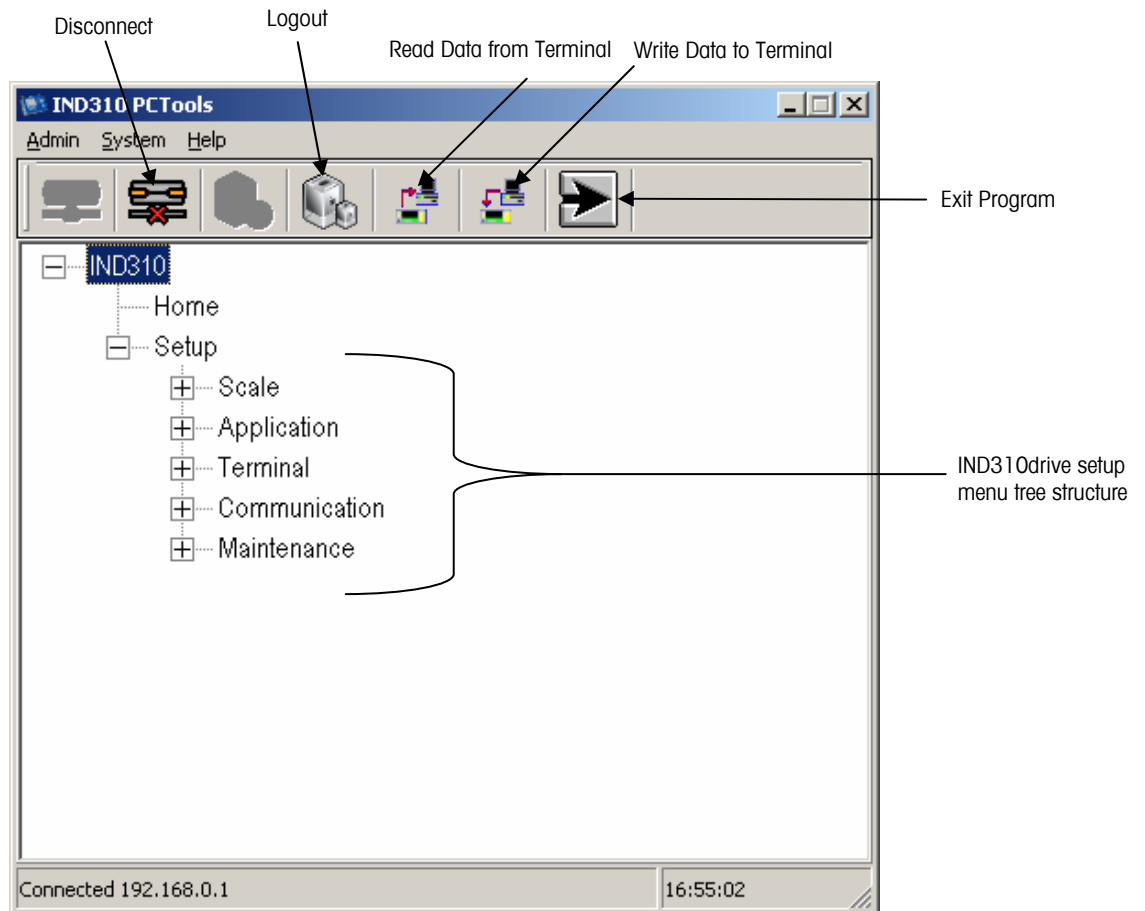

Figure B-12: Main PCTools Screen and Menu Tree
6. Click on the Yes button to complete the login. The main PCTools screen displays (Figure B-12) showing the same tree structure as the IND310drive terminal's setup menu. The PCTools menu tree functions in the same manner as the IND310drive terminal's menu tree. Refer to Chapter 3.0, Configuration for specific setup requirements.
- To exit the PCTools program press the Exit Program icon (see Figure B-12). It is not necessary to logout and disconnect before exiting, but these buttons are provided for systems where multiple IND310drives are connected together with a hub network.